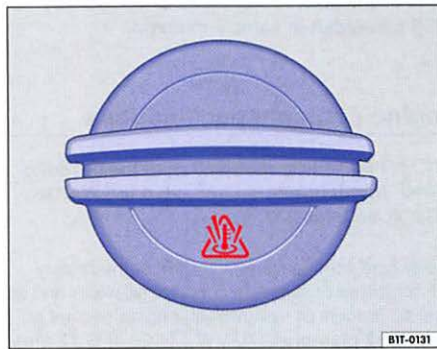

Fig. 132 Coolant expansion tank cap in the engine compartment.
- There is a symbol on the cap of the engine coolant expansion tank $\Rightarrow$ fig. 132.